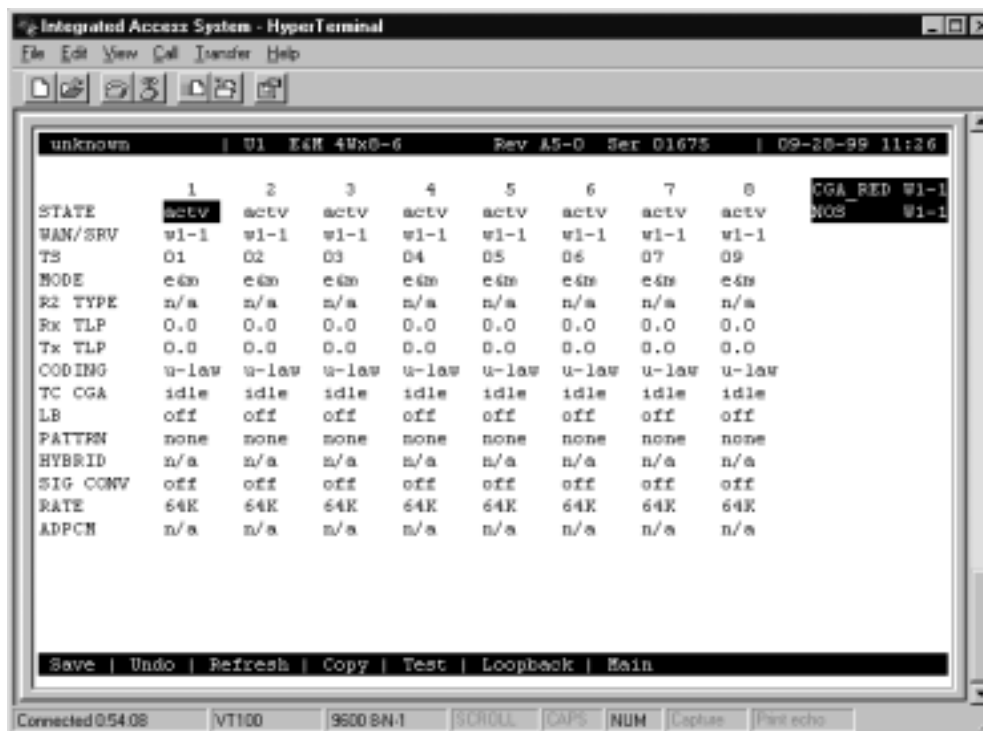

Figure 5-28. Typical E&M Card Time Slot Assignments
You can define a time slot map from any user card (data or voice) for connections involving that card, or from a WAN card for cross-connections involving only WAN cards. For example, Figure 5-28 shows the E&M Card Main Screen for the time slot assignments. Assign time slots to a voice card as follows:
2. Select the WAN port from which you want to assign time slots to the E&M card. In Figure 5-28, this is **W1-1** (for WAN 1, port 1).
3. Select a time slot (TS) for the first card port. A number appears at the bottom of the screen for the corresponding time slot on the WAN port.